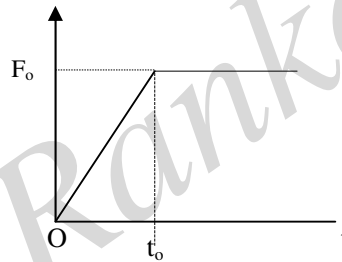

Fig. 2
8. A press of mass  $m$  is mounted on an elastic foundation of stiffness  $k$ . During operation the force applied to the press builds up to its final value  $F_0$  in a time  $t_0$  as shown in Fig. 2. Determine the response of the press for (a)  $t < t_0$  (b)  $t > t_0$ . [16]